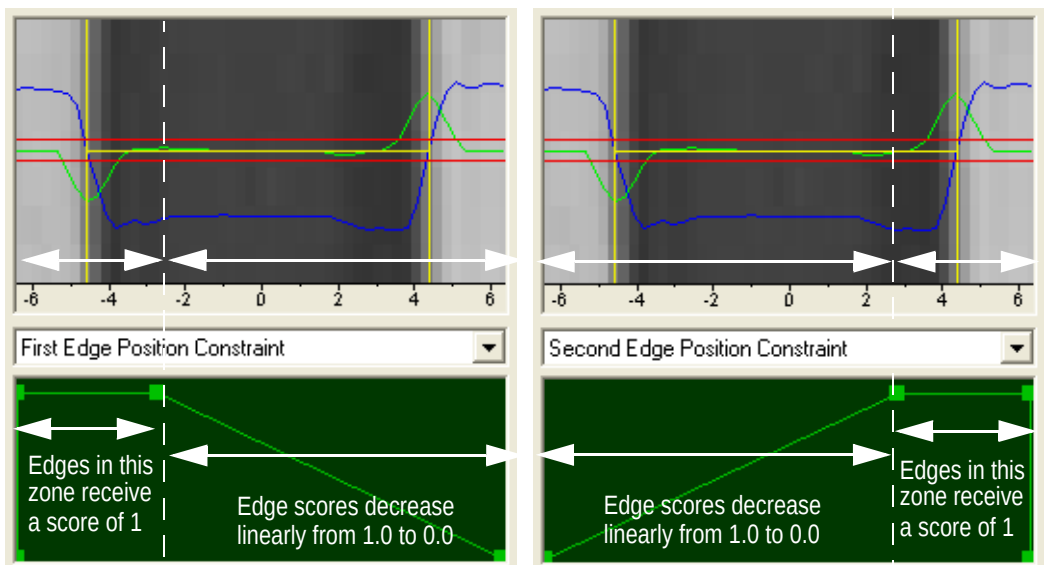

Figure 101 Adjusting Position Constraint Histograms
4. Use the mouse to drag the handles in the histogram window. Set the 1st and the 2nd edge position constraints as illustrated in Figure 101.